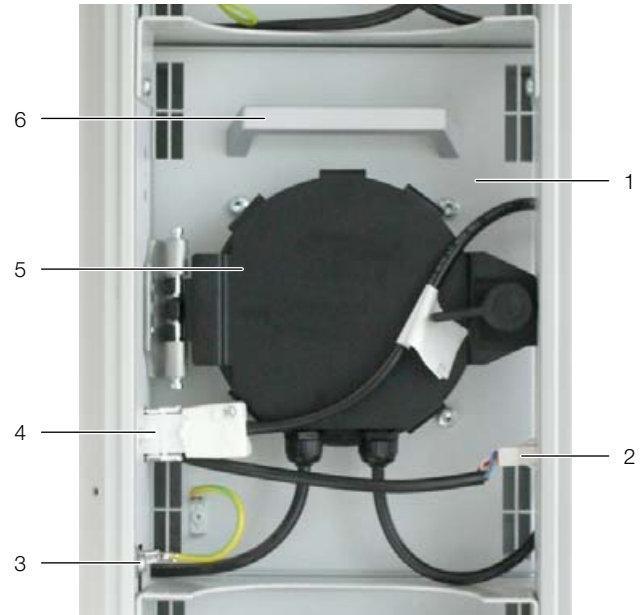

Fig. 38: Fan module in fan tray
- Release the two fan connectors DC and AC on the left and right (fig. 38, item 2 and 4).
- Disconnect the earth connection on the fan (fig. 38, item 3).
When making the connection, ensure that both cables of the fan are not routed too close parallel to each other over longer paths. Fig. 38 shows an optimum laying of the cables.